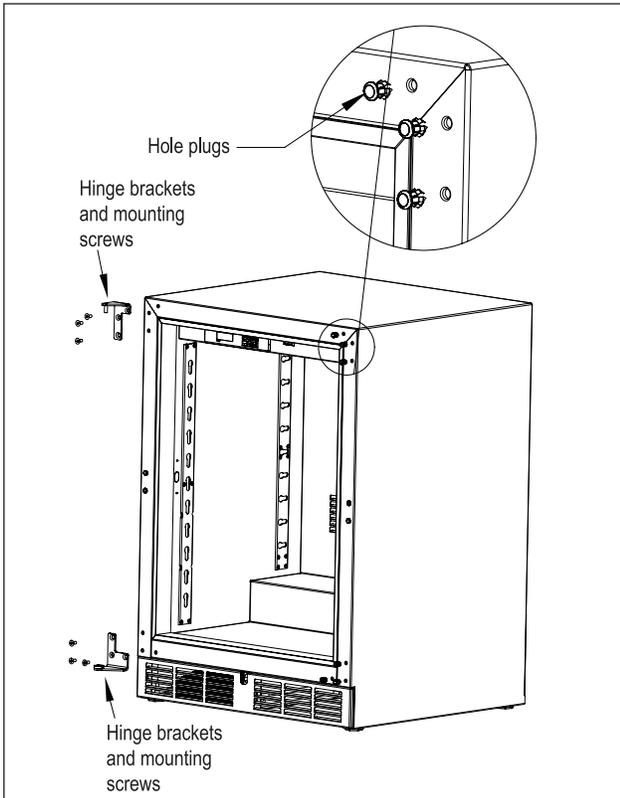

Figure 8. Hinge Removal
3.) Remove top and bottom hinge brackets. Retain screws for later use. See Fig. 8 on page 9.
4.) Remove the hole plugs from the top and bottom hinge bracket mounting holes (see Fig. 8 on page 9). Place the plugs in the holes on the opposite side made vacant by removing the hinges in step 3.